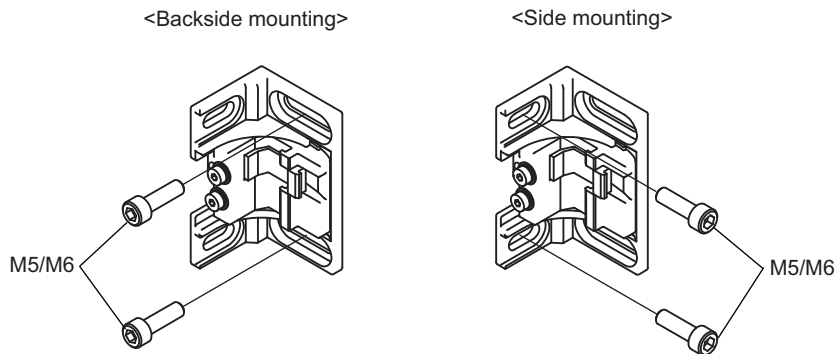

Fig. 3
- Securely tighten screws to fix the Intermediate Bracket to the mounting position of the wall surface. (Fig. 3)